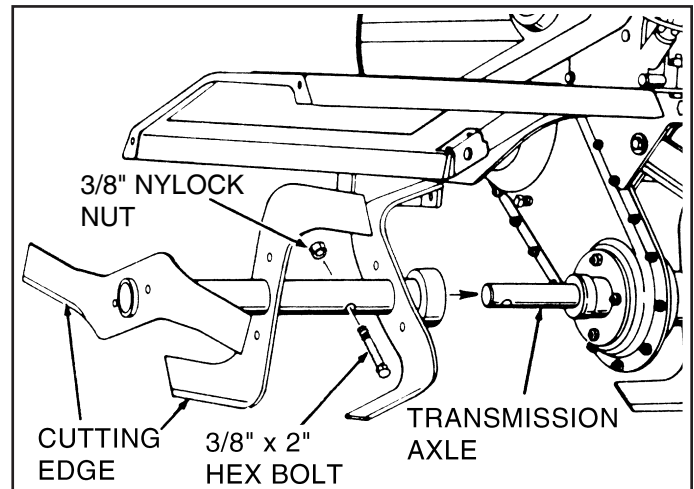

FIGURE 3
- Remove the preassembled 3/8" x 2" hex bolt and 3/8" nylock nut from the L.H. Tine Assembly. Slide the tine assembly onto the Transmission Axle on the left side of the tiller and secure with the hex bolt and nylock nut. See figure 3. Repeat for the R.H. side.